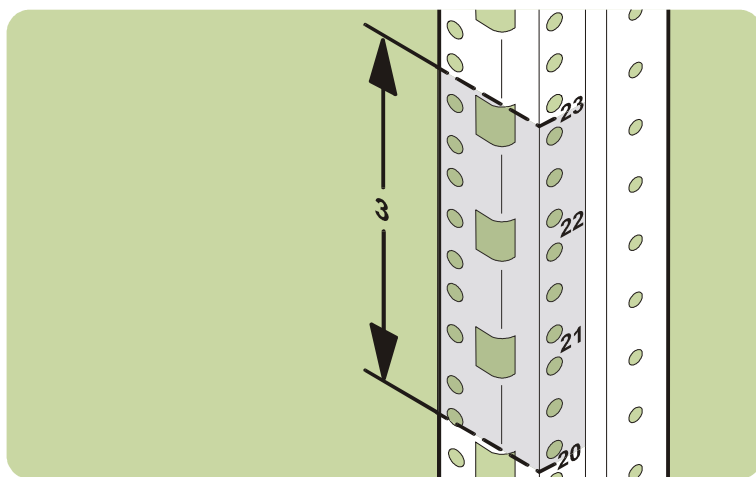

Fig. 12. Locating units of space in HP Rack System/E
3. The array and rail kit take 3 units of space. Using the template provided, locate the required units of space on the four rack columns (see Fig. 12).